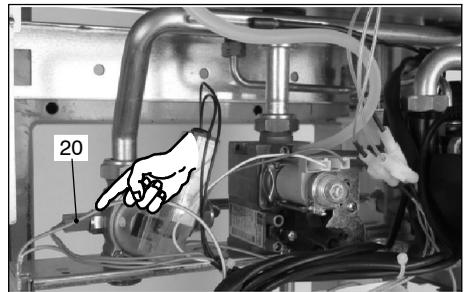

Fig. 8.3
- 9 Disconnect the electrical connectors of the C.h. temperature probe NTC 20 in Fig. 8.3